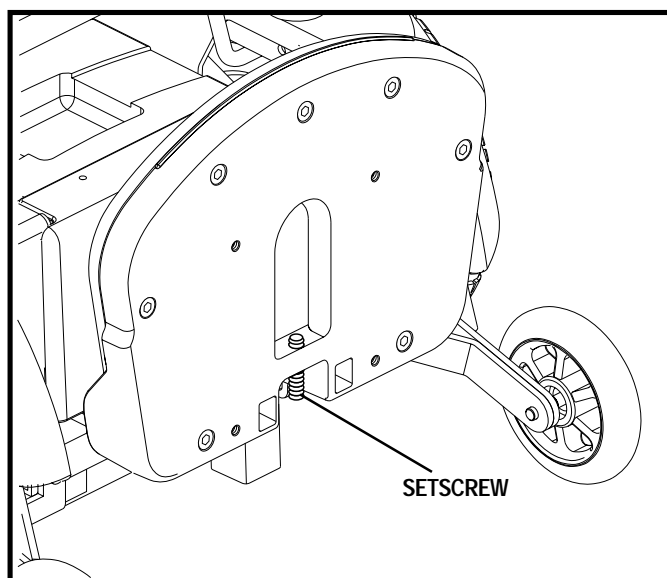

Figure 26. Foot Platform Angle Adjustment
1. Flip up the foot platform and locate the setscrew. See figure 26.